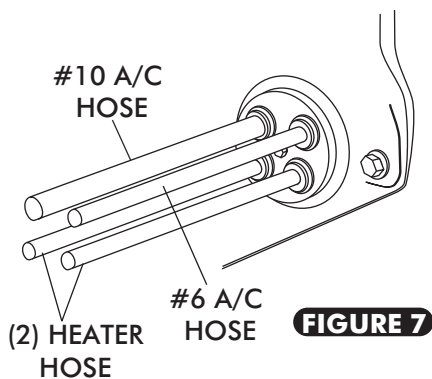

FIGURE 7
- ROUTE A/C AND HEATER HOSE THROUGH FRESH AIR CAP AND KICK PANEL FRESH AIR CAP AS SHOWN IN FIGURE 7 AND 7b, BELOW.